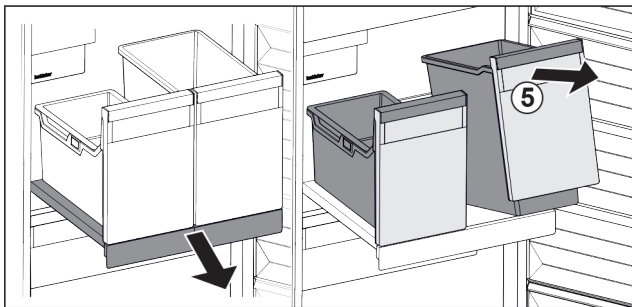

Fig. 32
- ▶ Lift the container Fig. 32 (5) at the front.